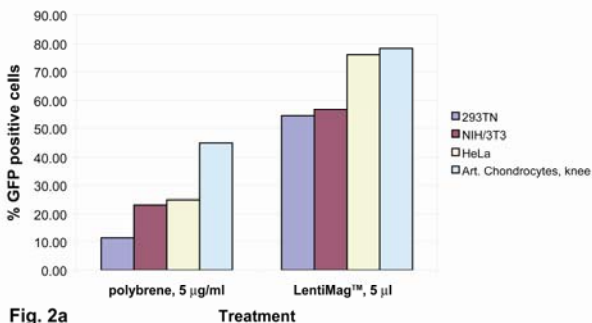

Fig. 2a
The rate at which lentiviral vectors bind to and infect target cells (transduction) is predominantly controlled by diffusion (7). Only that fraction of lentiviral vectors that contact target cells via Brownian movement within a given incubation time can bind to and transduce the target cells (2). To overcome these limitations, magnetic nanoparticles have been exploited to capture lentiviral vectors, and attract the vectors to target cells by use of an external magnetic field (8). These approaches have greatly improved transduction efficiencies of lentiviral vectors (1-12). System Biosciences, in an attempt to provide the greatest lentiviral transduction efficiencies to our customers, have developed a magnetic nanoparticle suspension, LentiMag™, that effectively binds our HIV- and FIV-based vectors and very quickly concentrates them onto target cells by use of a magnetic plate. Using LentiMag™, higher transduction efficiencies have been achieved compared to transductions performed with Polybrene (hexadimethrine bromide). Figures 2a and 2b show typical results obtained with LentiMag™ versus Polybrene for various cell types.